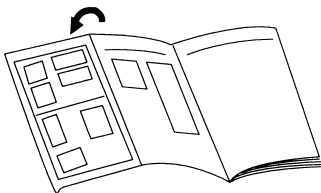

Fig. 6 Remote Control Unit
- 1 **Press the CLOCK ADJUST button (Fig. 6 ③④).**
- 2 **Use the TIMER SET (\oplus/\ominus) buttons (Fig. 6 ③②) to adjust the clock to the current time.**
- 3 **Press the CLOCK ADJUST button (Fig. 6 ③④) again.**
1 Press the START/STOP button (Fig.6 ㉔).
2 Press the MASTER CONTROL button (Fig.6 ㉒) to select the desired mode.
Press the SET TEMP. button (Fig. 6 ㉓).
Press the FAN CONTROL button (Fig. 6 ㉒).